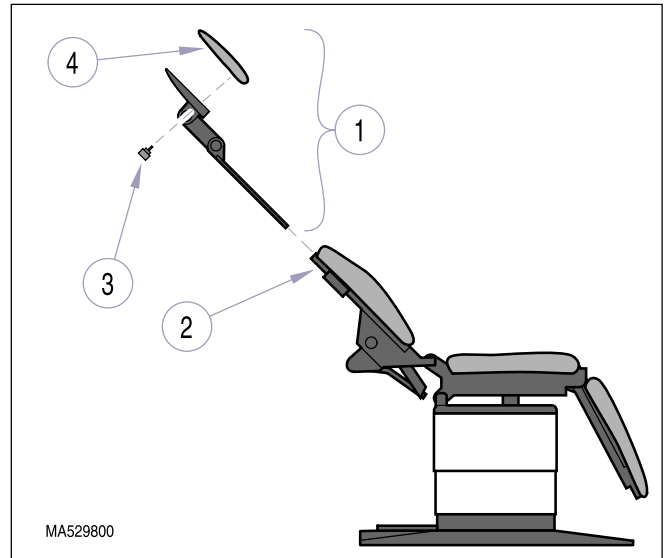
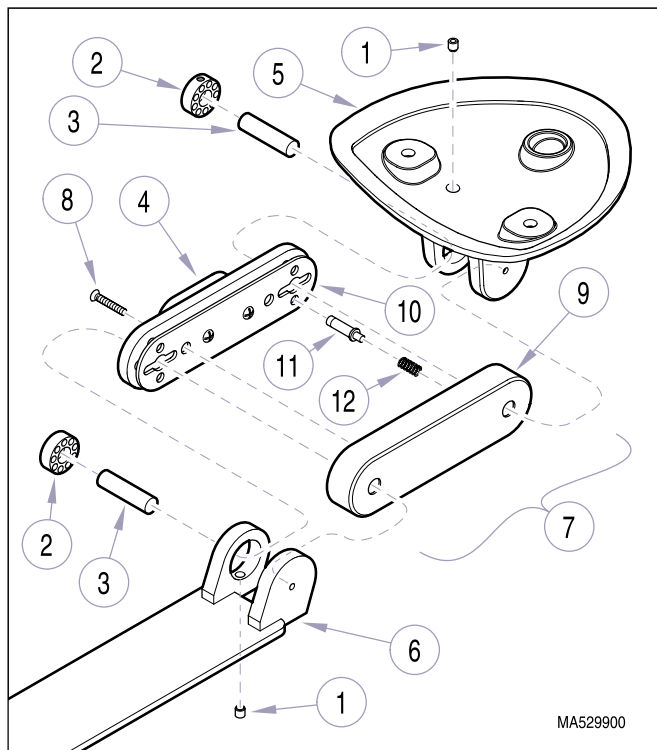

Figure 4-38. Headrest Assembly Removal / Installation
Figure 4-39. Headrest Assembly Stop Pin Removal / Installation
- (1) Pull headrest assembly (1, Figure 4-38) out of headrest slide mechanism (2).
- (2) Remove two knobs (3) and headrest upholstery (4).
- (3) Loosen two set screws (1, Figure 4-39) and remove two pin stop blocks (2).
- (4) Remove two pivot pins (3).
- (5) Push release button (4) and remove headrest housing (5) and tang weldment (6) from pin/spring housing assembly (7).
- (10) Install headrest upholstery (4, Figure 4-38) and secure with two knobs (3).
- (11) Insert headrest assembly (1) into headrest slide mechanism (2).